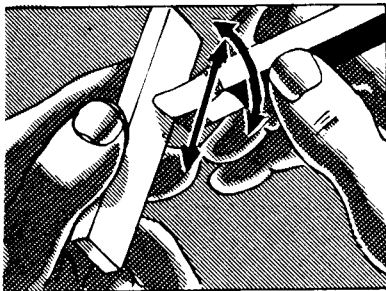
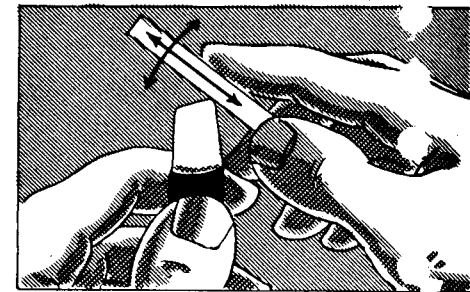

FIG. 581
FIG. 582
4. Stone the nose of the tool by holding the tool as illustrated in Fig. 581. Rub the tool back and forth over the stone and at the same time swivel the tool to produce a circular motion at the nose, or move the stone with a circular motion around the nose of the tool (Fig. 582).